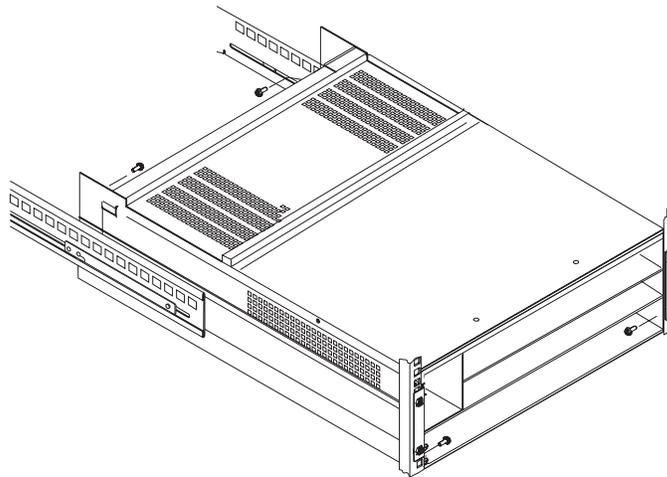

Figure 21. DS4500 Storage Subsystem mounting
- b. With help from another person, place the back of the storage subsystem on the support rails, and then slide the unit into the rack as shown in Figure 21.